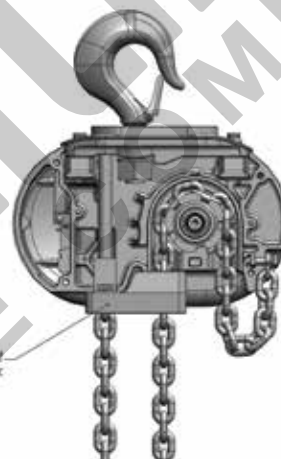

Figure 7. Contact Block Used on Model R
2. On Models E and H insert the last link of the load chain into the dead end block (1) and secure it with the dead end pin, washer and cotter pin furnished with the suspension. Ensure there are no twists in the chain.
3. On Model R, slide the contact block up the chain until it is against the bottom of the hoist and the dead end block is projecting through the square opening in the bottom of the block. Insert the last link of the load chain, making sure there are no twists between the hook block and the dead end block, into the dead end block. Push the contact block up slightly and secure the load chain to the dead end block using the dead end pin, washer and cotter pin furnished with the suspension. The dead end pin also supports the contact block (See Figure 7)